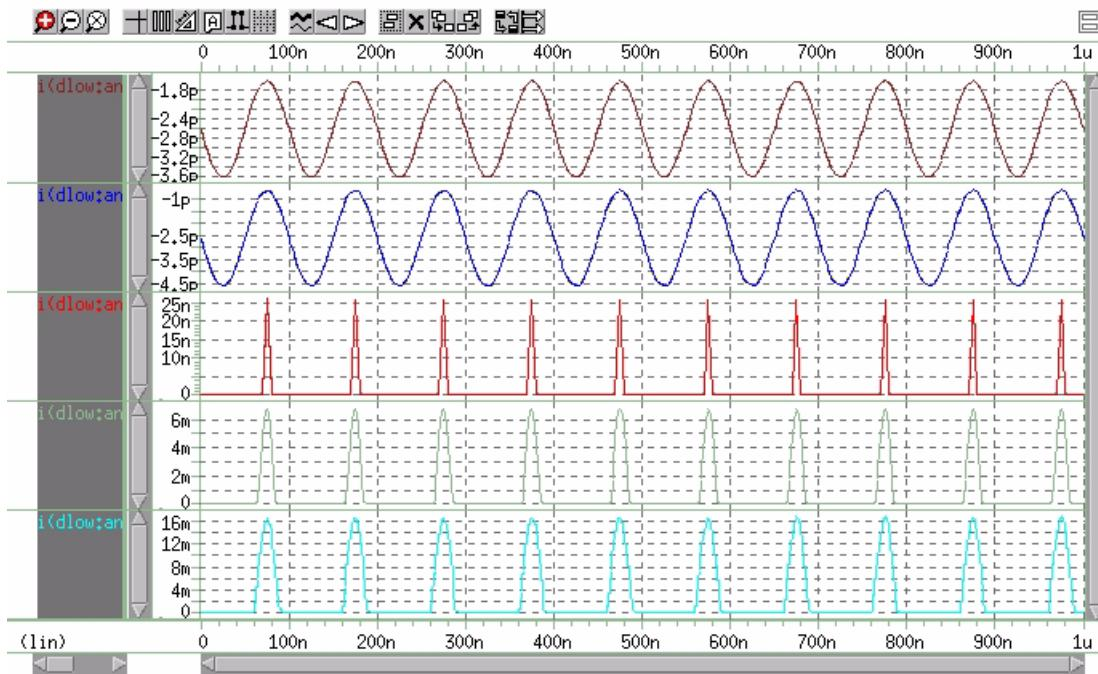

Figure 239 Plot of Current through Diode *dlow* vs. Time
12. Click the ungroup panels icon ( )on the WaveView panel tool bar to display a plot similar to the one shown in Figure 239 on page 923.